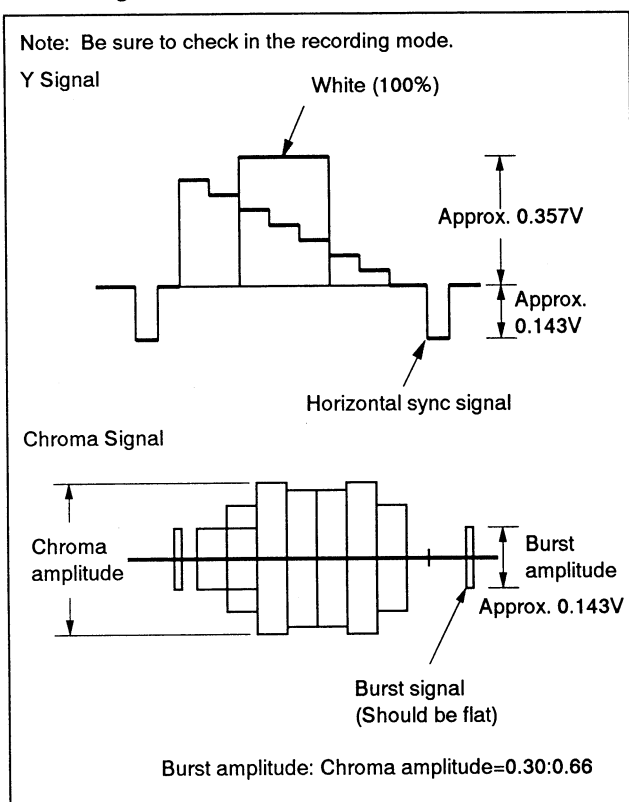

Fig. 7-3-2. Color bar signal of pattern generator
Connect the oscilloscope to Pin ⑬ of CN203 on VS board, and check that the sync signal of the Y signal is approximately 0.143 Vp-p and that the amplitude of the video section is approximately 0.357 Vp-p. (When a VTR with the S VIDEO output terminal is used, also check that the chroma signal and burst signal have not remained.) Connect the oscilloscope to Pin ⑰ of CN203 on VS board, and check that the burst signal amplitude of the chroma signal is approximately 0.143 Vp-p and flat, and that the amplitude ratio of the burst signal to the chroma signal is 0.30:0.66. The Y and chroma signals used in the adjustment are shown in Fig. 7-3-2.